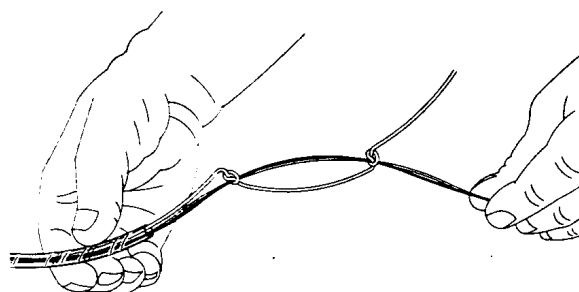

FIGURE 25 - FEED FIBER THROUGH TRANSPORT TUBE
14.05 To feed the fiber through the transport tube, apply the pull string to the fiber with a double half hitch knot. (Figure 25)